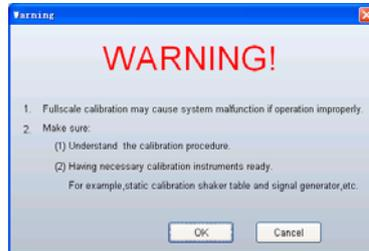
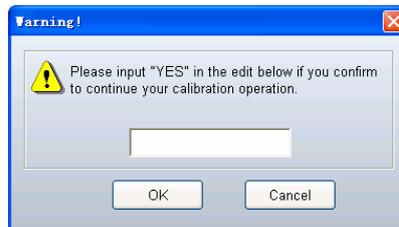
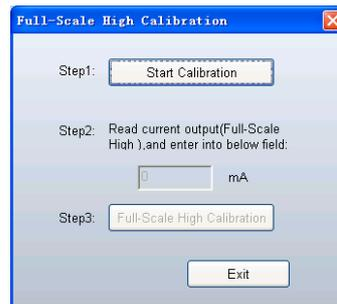

Figure 30
Figure 31
Figure 32
4. Click the button *Full-scale high Calibration*. Click OK button in the WARNING window (figure 30). Enter YES in the Warning dialogue (figure 31) and click OK to open the calibration window (figure 32). Follow the steps showed in the window to implement calibration. First, click the button *Start Calibration* in step1, then